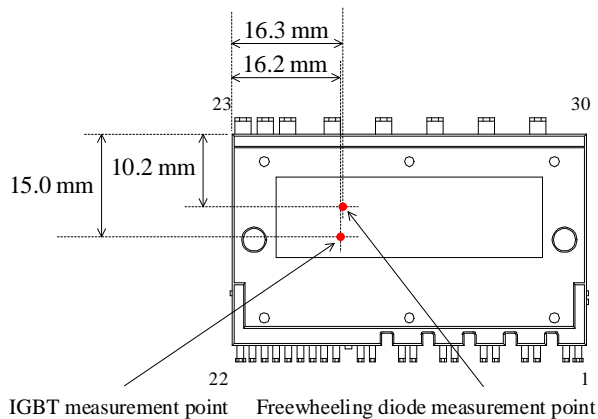

Figure 4-5. Case Temperature Measurement Point
(2) Refers to a case temperature at the measurement point described in Figure 4-5.